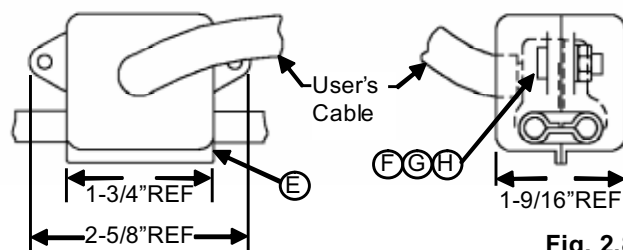

Fig. 2.8.12
2.8.12 Remove the knockout from one of the case halves to allow the cable insulation to completely enter the cover and lay flush against the powerfeed. Drill open the knockout for larger cable as required. (See Fig. 2.8.12).